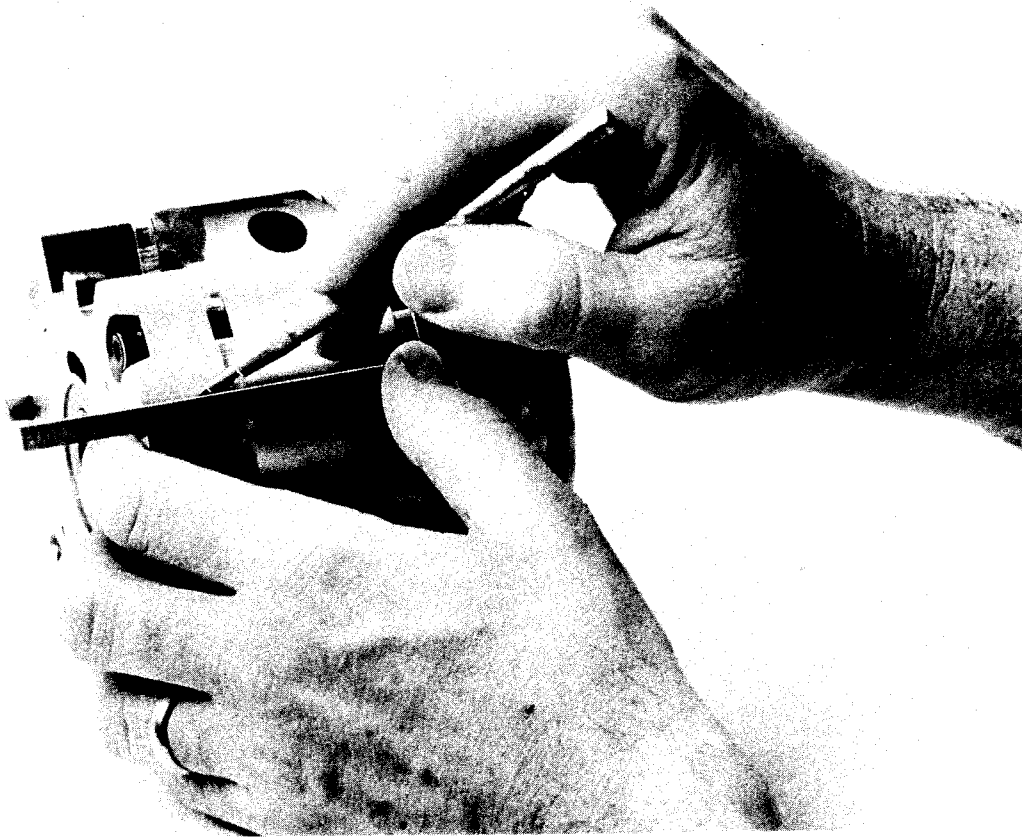

Figure 12 - Scribing the cartridge.
b. Scribe a line across the outer surface of the cartridge kit. (See figure 12). The scribe marking will provide a reference for parts during assembly.